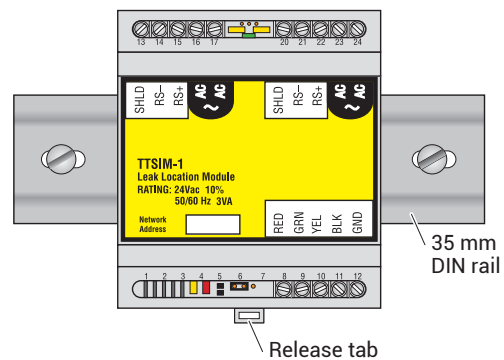

Figure 1. DIN Rail Mount
### Mounting the TTSIM-1 module (without NEMA 4x Enclosure – Figure 1)
- **Note:** When properly oriented, there will be two terminal strips on the top of the module and one on the bottom. See Figure 1.